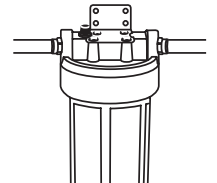

Figure 7
8. Fasten bracket to filter head with four Phillips head screws provided. (See Figure 7.) Fasten bracket to wall with four Phillips head screws provided. If pre-drilling holes, bracket may be used as a template for making screw hole locations.